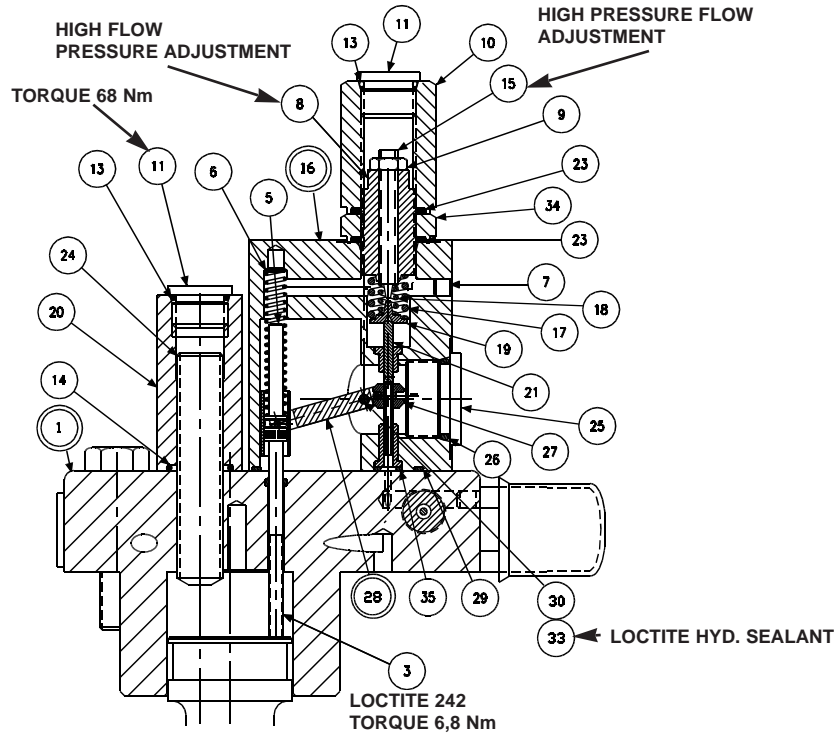
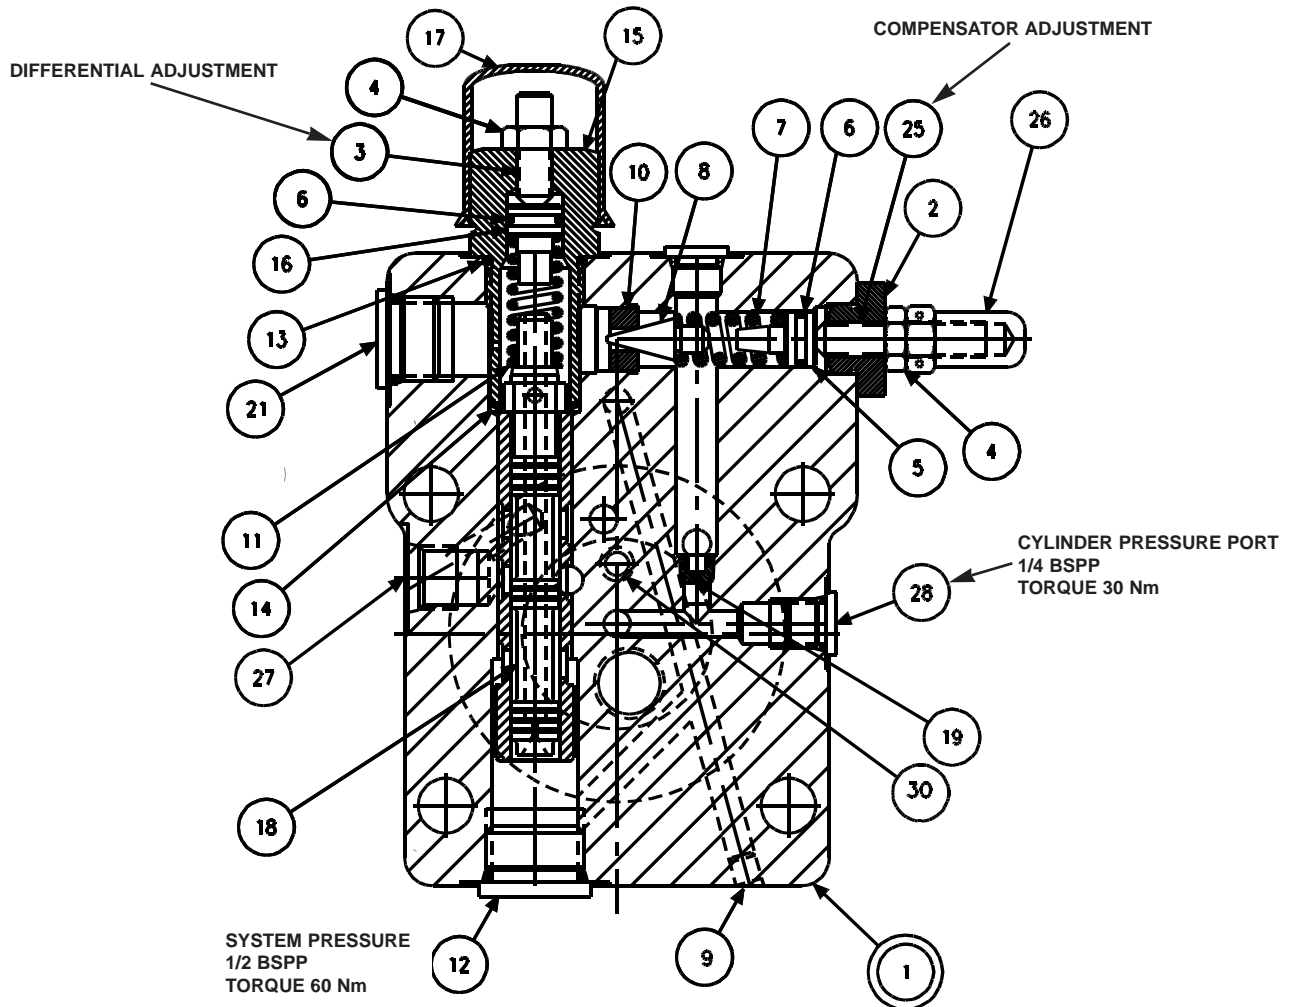

FIGURE 8
FIGURE 9
1. **See figure 8.** Remove 2 screws holding torque limiter body (16) to cap assembly (1).
2. Remove all parts from torque limiter body (16) except pin (30) and arm assembly (28). It is not necessary to remove these parts unless broken or worn. Examine parts for wear or damage.
3. Remove screw (3). Examine head for excessive wear, and body for smooth sealing surface with O-ring.
4. Remove maximum volume stop assembly (items 11, 13, 14, 20 and 24).
5. Remove cap assembly (1).
6. **See fig. 9.** Remove plug (15) and attached parts. Remove spring (11) and spool (18).
7. Remove adjusting plug (2) and attached parts. Remove seal piston (5). Note: a 10-24 screw may be attached to assist in pulling the piston. Remove spring (7) and cone (8).
8. Do not remove sleeve in body (1). Sleeve is pressed into cap and finished to size. If sleeve, snout or cap is worn, replace the cap-sleeve assembly (1).
9. Examine seat (10) for wear. Do not remove unless damaged.
1. **See figure 9.** Install Avseal plugs (9) and orifice (19).
2. Press seat (10) into bore squarely against shoulder in bore.
3. Install spool (18) into bore as shown. Install spring (11) over end of spool. Install O-ring (6) on seal piston (16). Lubricate and install into plug (15). Install O-ring (14) in bottom of bore as shown. Install O-ring (13) on plug (15). Install plug (15) into cap. Install screw (3) and nut (4).
4. Install O-ring (6) on seal piston (5).
5. Lubricate O-ring and install cone (8), spring (7) and seal piston into bore in cap (1), being careful that cone enters seat (10). Install adj. plug (2), screw (25), nut (4), and acorn nut (26).
6. Install plug (12) and torque to 60 Nm. Install plug (21). Torque to 35 Nm.
7. Carefully install O-ring (30) into the cap.
9. **See figure 8.** Install maximum stop screw (24), cover (20), O-ring (14) and plug (11) with O-ring (13).
10. Apply Loctite 242 on threads of screw (3), lubricate the shank, thread through the cap into the control piston, and torque to 6,78 Nm.
12. Press dowel (30) into body (16), through the link assembly (28), to 6,35 mm below surface. Apply Loctite hydraulic sealant[®] to threads of screws (33) and install over dowel (30).
13. While sleeve (27) is engaged into dowel on link (28), slide spool (21) into bore of body (16), and through sleeve (27). Spool (21) must move freely and easily at all positions of the link (28).
14. Assemble remaining parts per drawing. Torque plugs (11) to 68 Nm.
15. While spring retainer is engaging clevis pin (5) under dowel of link (28), slide the other opening of spring retainer over the top of the screw (3). Attach body assembly (16) to cap (1) and torque assembly screws to 102 Nm.
PARTS LIST FOR FIGURE 8
PARTS LIST FOR FIGURE 9,
5. For setting and testing compensator override function, disable torque limiter in this manner: Back out primary adjusting screw (15) figure 8, to remove all load. Turn in outer adjusting screw (8) to go solid. Caution! do not apply over 1,2 Nm torque to avoid damage to internal parts!